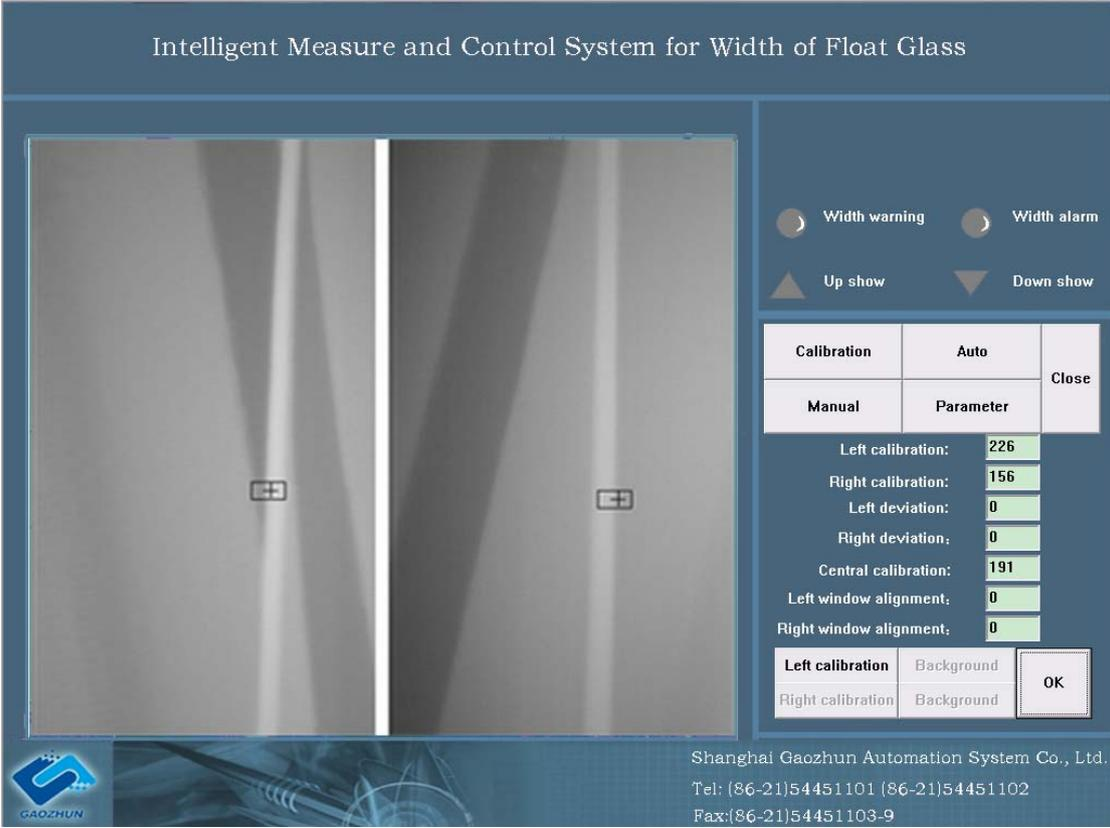

Fig. 5 Interface for Calibration
5.2 When click the button of “calibration” with the left key of mouse, it will enter into the interface for calibration, as shown in Fig. 5